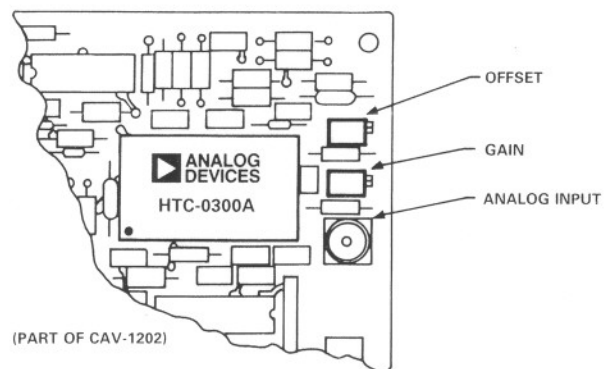

Figure 1. Offset and Gain Controls
- Standard bipolar input is adjustable ±5% with on-card potentiometer (see text and Figure 1).
- Adjustable ±15mV without performance degradation (see text and Figure 1).
Refer to Figure 1, the CAV-1202 Adjustment Controls.